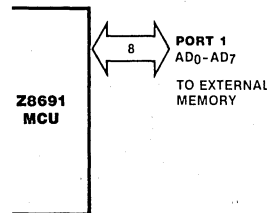

Figure 8. Port 1
**Port 1** is a dedicated Z-BUS compatible memory interface. The operations of Port 1 are supported by the Address Strobe ( $\overline{AS}$ ) and Data Strobe ( $\overline{DS}$ ) lines, and by the Read/Write (R/W) and Data Memory (DM) control lines. The low-order program and data memory addresses ( $A_0$ - $A_7$ ) are output through Port 1 (Figure 8) and are multiplexed with data in/out ( $D_0$ - $D_7$ ). Instruction fetch and data memory read/write operations are done through this port.